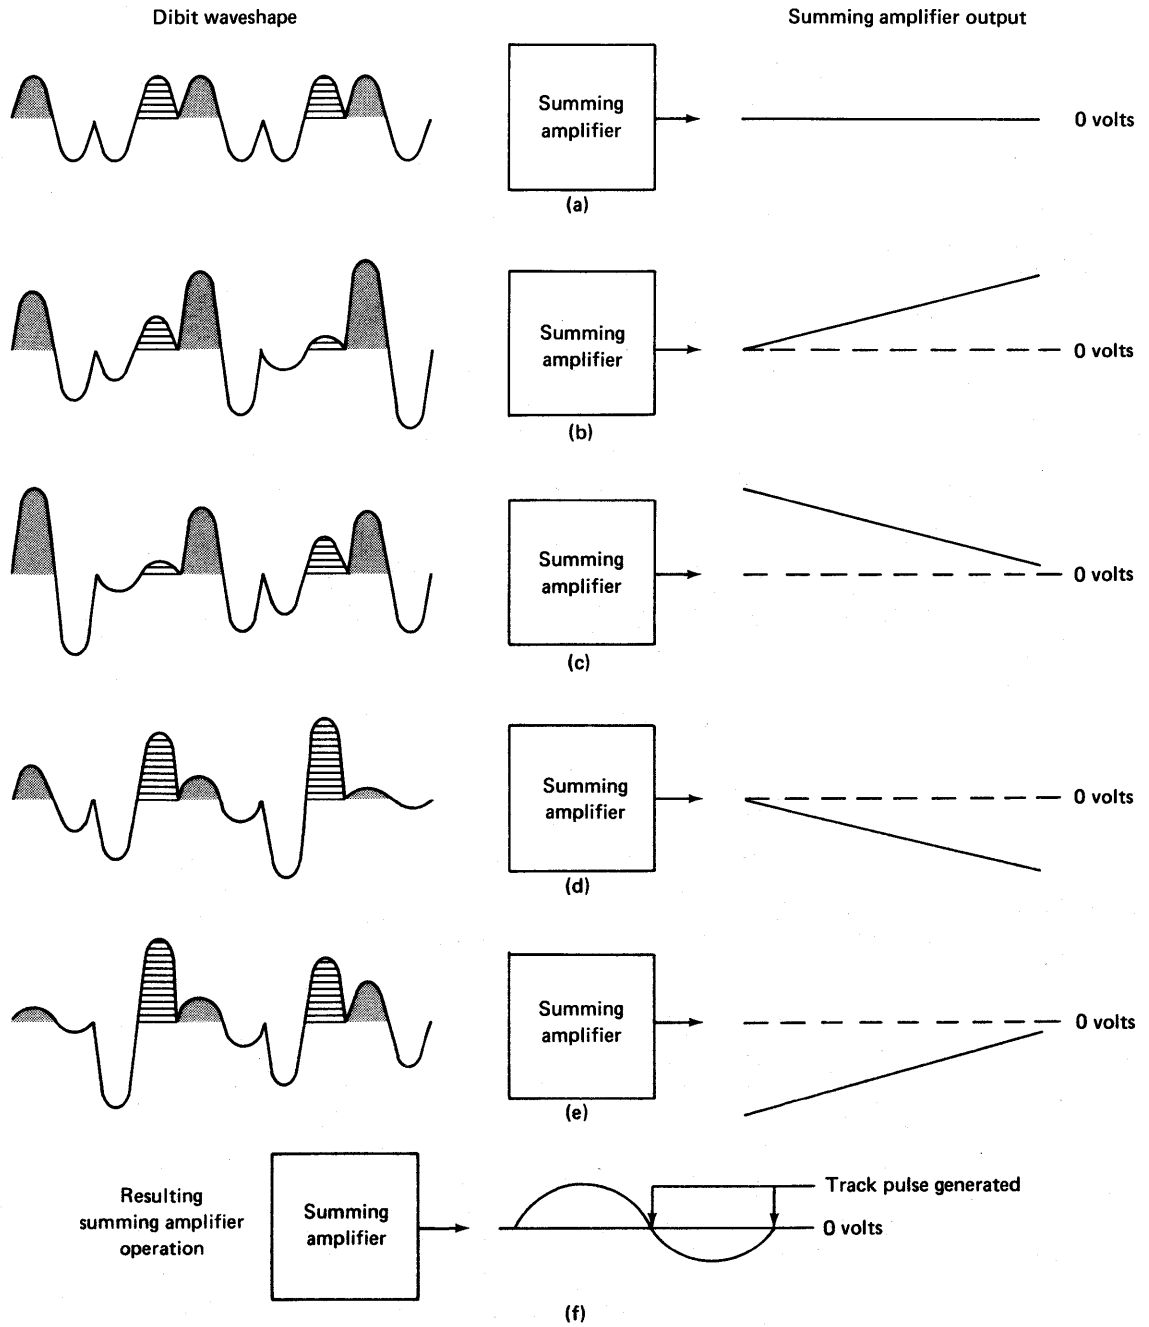

Figure 55. Summing amplifier operation
24. As the head moves during a seek operation, it crosses positive and negative dibit tracks. Frame 22 and figure 53 explain the resulting dibit waveforms as the head is moved across the dibit tracks. Figure 55 shows the resulting waveform from the summing amplifier as the head is being moved. Note that a sine wave is developed at the output as the dibit patterns change at the input.
Each of the sections of figure 55 is explained as follows: